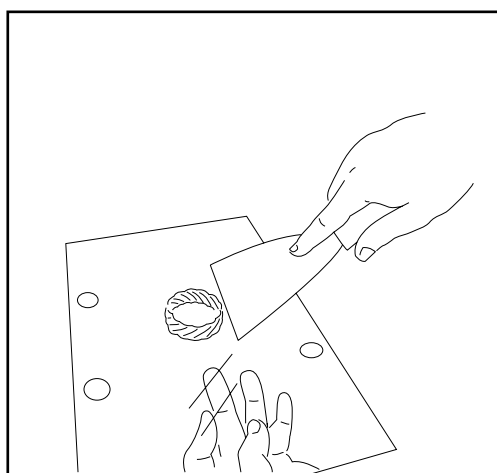

Figure 3.24 Remove the object using a spatula
- Using a spatula, gently dig around the edges of the object in order to loosen it (fig. 3.24).